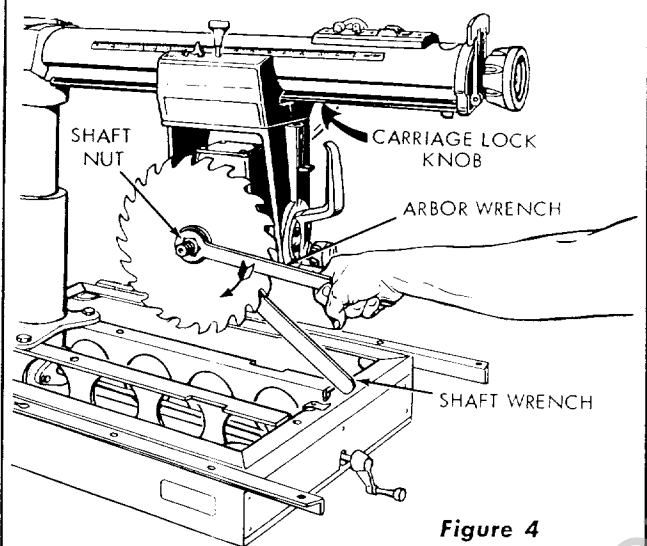
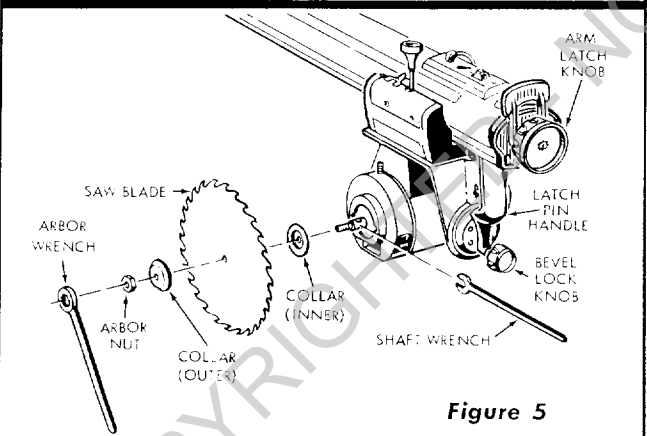

Figure 4
Figure 5
- b. Lock the carriage by tightening the carriage lock knob, hold the motor shaft (at inner edge of saw blade) with the shaft wrench and loosen the shaft nut and saw-blade collar with the arbor wrench. (See figure 4.) Remove the shaft nut, outer collar, saw blade and inner collar. (See figure 5.)
- c. Loosen the bevel lock knob and lift up on the latch pin handle. (See figure 5.)
- Place the inside collar (figure 5) on motor shaft with flange next to saw blade (facing outward).